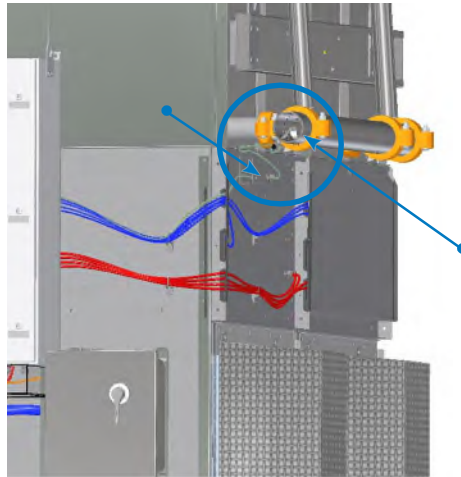

Figure 22. Manifold Connection Outlet and Leaving Process Fluid Temperature Sensor
5. Install the connection outlet with the leaving process fluid temperature sensor port pointing at 45° toward unit. Run the wire through the cord grip and brackets. Install the bracket as needed. This wire will be routed through the same path as the fan communication wire and back to the touchscreen control system panel. See **Figures 22 and 23**.